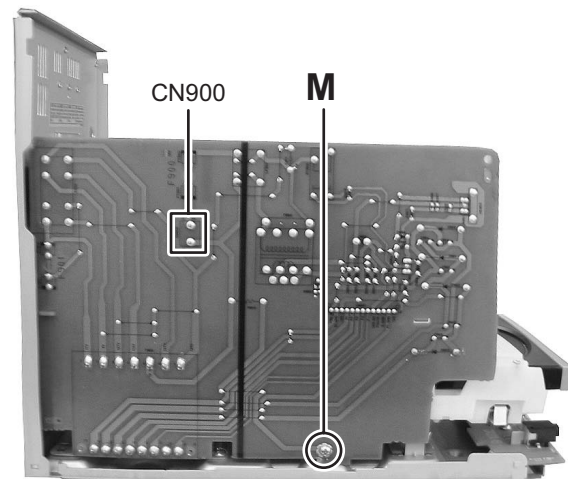

Fig.10
- (2) Disconnect the connector wire from the connector CN900 of the trans board. (See Fig.10)
- (3) Remove the one screw **M** attaching the trans board. (See Fig.10)